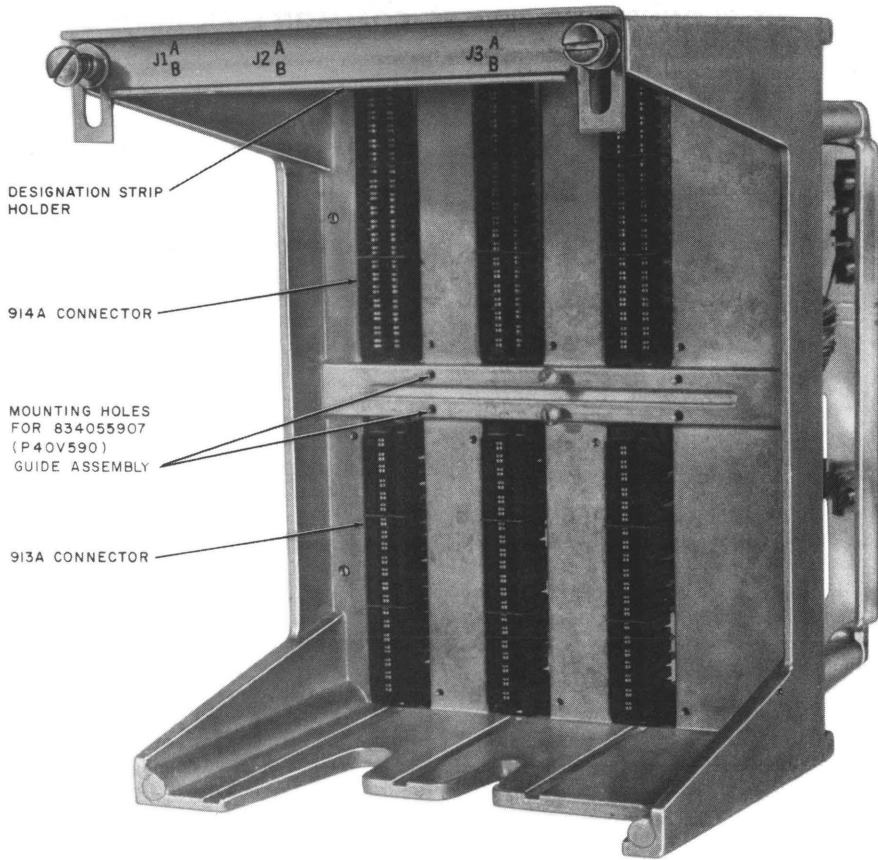

Fig. 1—615A Panel (Front View)◆
**2.01** The 615A panel (Fig. 1 and 2) consists of a cast aluminum carrier equipped with three 914A connectors in the upper row and three 913A connectors in the lower row. The 6- by 8-inch carrier has a full rear panel mounted on four standoffs making it 9-1/4 inches deep. The vertical rack space required is 8 inches (9 inches when mounted on 99B brackets).